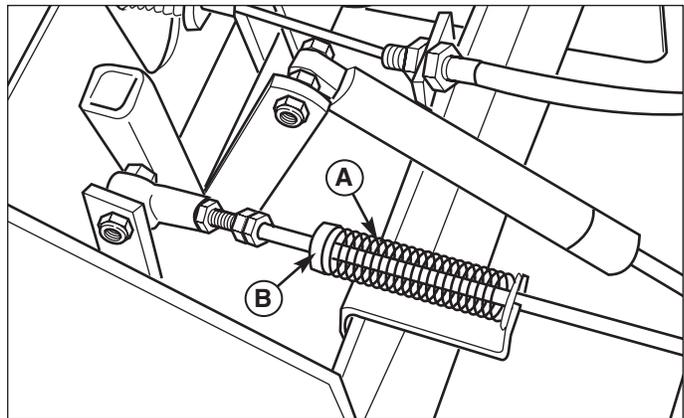

Figure 39. Return to Neutral Adjustment
3. Move the ground speed control levers out towards the neutral position. If the levers do not align with the notches in the neutral lock plate, it is necessary to adjust the return spring (A, Figure 39).